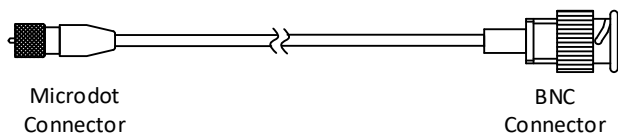

Fig. 7.2. FID Cable Assembly
4. The new FID Cable Assembly has a Microdot connector on one end and a BNC connector on the other end (see Figure 7.2). Screw the Microdot connector end of the new cable assembly into the Insertion Tool.